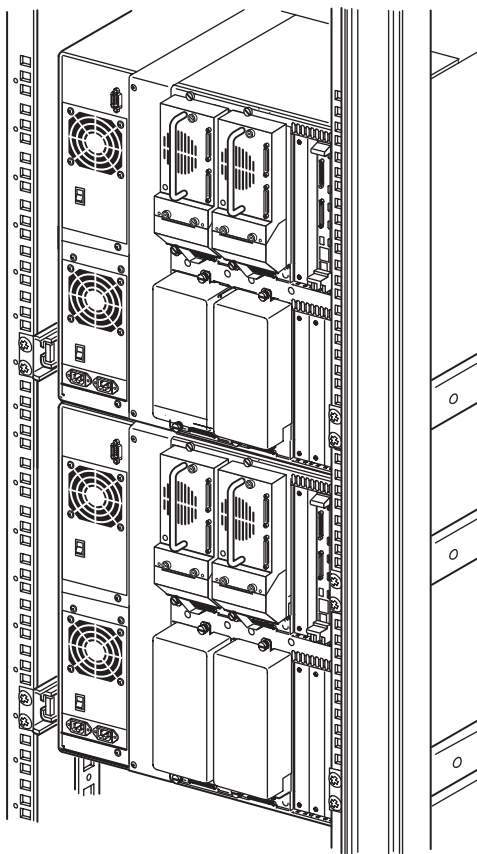

Figure 10 Library installation, 10U models (9000 rack enclosure shown)
1. Install two 10U libraries as shown in Figure 10 on page 21 following the instructions in the *HP StorageWorks MSL6000 Series Tape Library User Guide*.